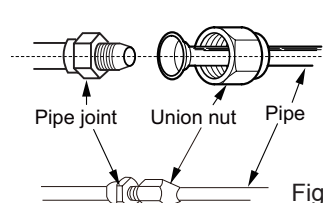
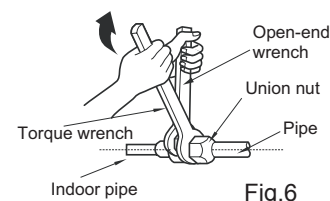

Fig.5
Fig.6
(1) Aim the pipe joint at the corresponding bellmouth.(As show in Fig.5)
(2) Pretightening the union nut with hand.
(3) Adjust the torque force by referring to the following sheet. Place the open-end wrench on the pipe joint and place the torque wrench on the union nut. Tighten the union nut with torque wrench. (As show in Fig.6)